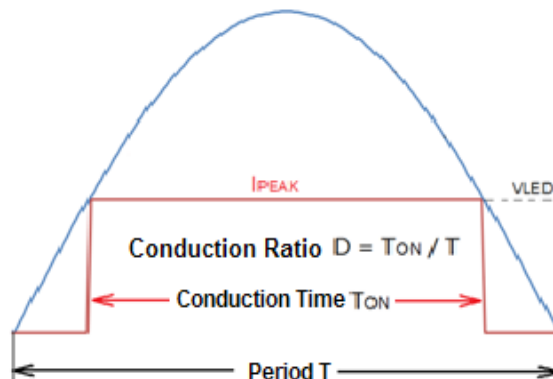

Fig.2 LED conduction procedure
It is important to determine the LED voltage and current, As MT7603 is a linear buck LED driver IC, the peak value of the rectified input voltage must be greater than the output LED voltage. Refer to Fig.2, MT7603 automatically turns on the LED string following the input sine wave. When the input voltage rises and reaches to the LED conducting voltage V_{LED} , The LED string is turned on. Since then, the input voltage continues rising, the LED string voltage keeps stable, the external MOSFET bears the superfluous voltage drop. If the input voltage drops, the procedure is reversed. So high LED voltage makes the LED availability to be low, and low LED voltage will reduce the system efficiency. It is recommended to choose about 120V high-voltage LED string in 120VAC applications; And to choose about 250V high-voltage LED
Fig.2 shows the LED conduction procedure, MT7603 actually controls the LED peak current during the conduction-time.
- 1) No large electrolytic capacitor is needed after the rectifier bridge, as shown in Fig.2. At the valley, the input voltage is lower than LED string forward voltage, the output current is zero. When the input voltage is higher than the LED string forward voltage, the output current is I_{PEAK} . So, in the real application, the LED string current is discontinuous, and the I_{LED} is the average LED string current.